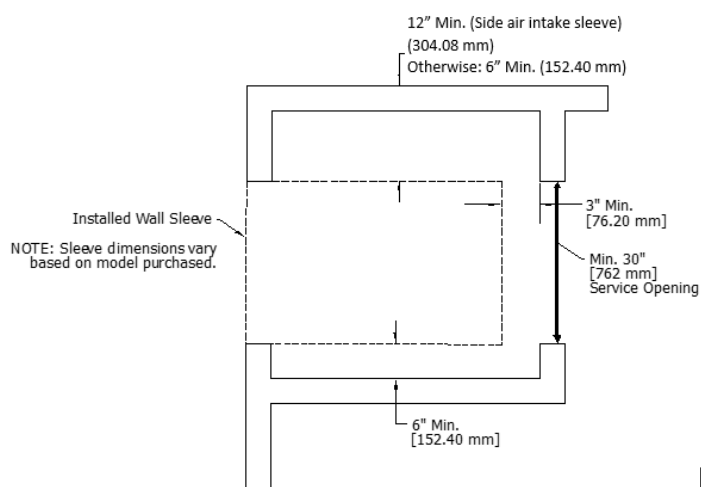

FIGURE 14 - Rear Installation
- Sleeve rough-in opening is 43-1/2 in. (H) [110.49 cm] x 26-3/4 in. (W) [67.94 cm].
- Minimum of 3 in. [7.62 cm] of clearance is required on all sides, except ERV fresh air (supply air) side, of the FRESH-PAK unit. See **FIGURE 14- Rear Installation**.